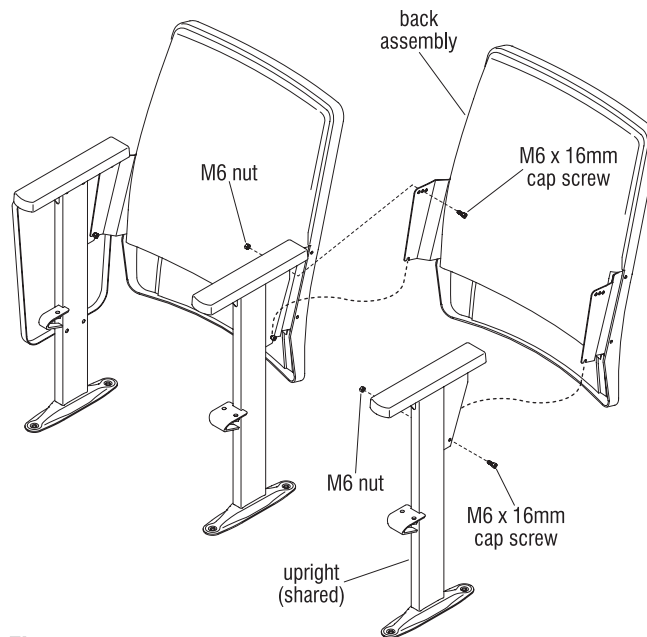

Figure 4
5. To install a second back assembly in a row, first insert a M6 x 16mm cap screw through the bottom rear hole in the next shared upright and loosely twist on a M6 nut (Figure 4).
6. Lift up and rotate the back assembly in between the two uprights until the appropriate two slots in the lower part of the back brackets nest onto the two loosely attached M6 x 16mm cap screws in the two shared uprights' back brackets (Figure 4).
7. As in step 4 above, rotate the top of the back assembly forward and align the desired set of upper holes in the back bracket with the holes in the top of the upright bracket (shared). At this time, insert loosely the M6 x 16mm cap screw to hold the back brackets of both back assemblies to the common shared upright (Figure 4).